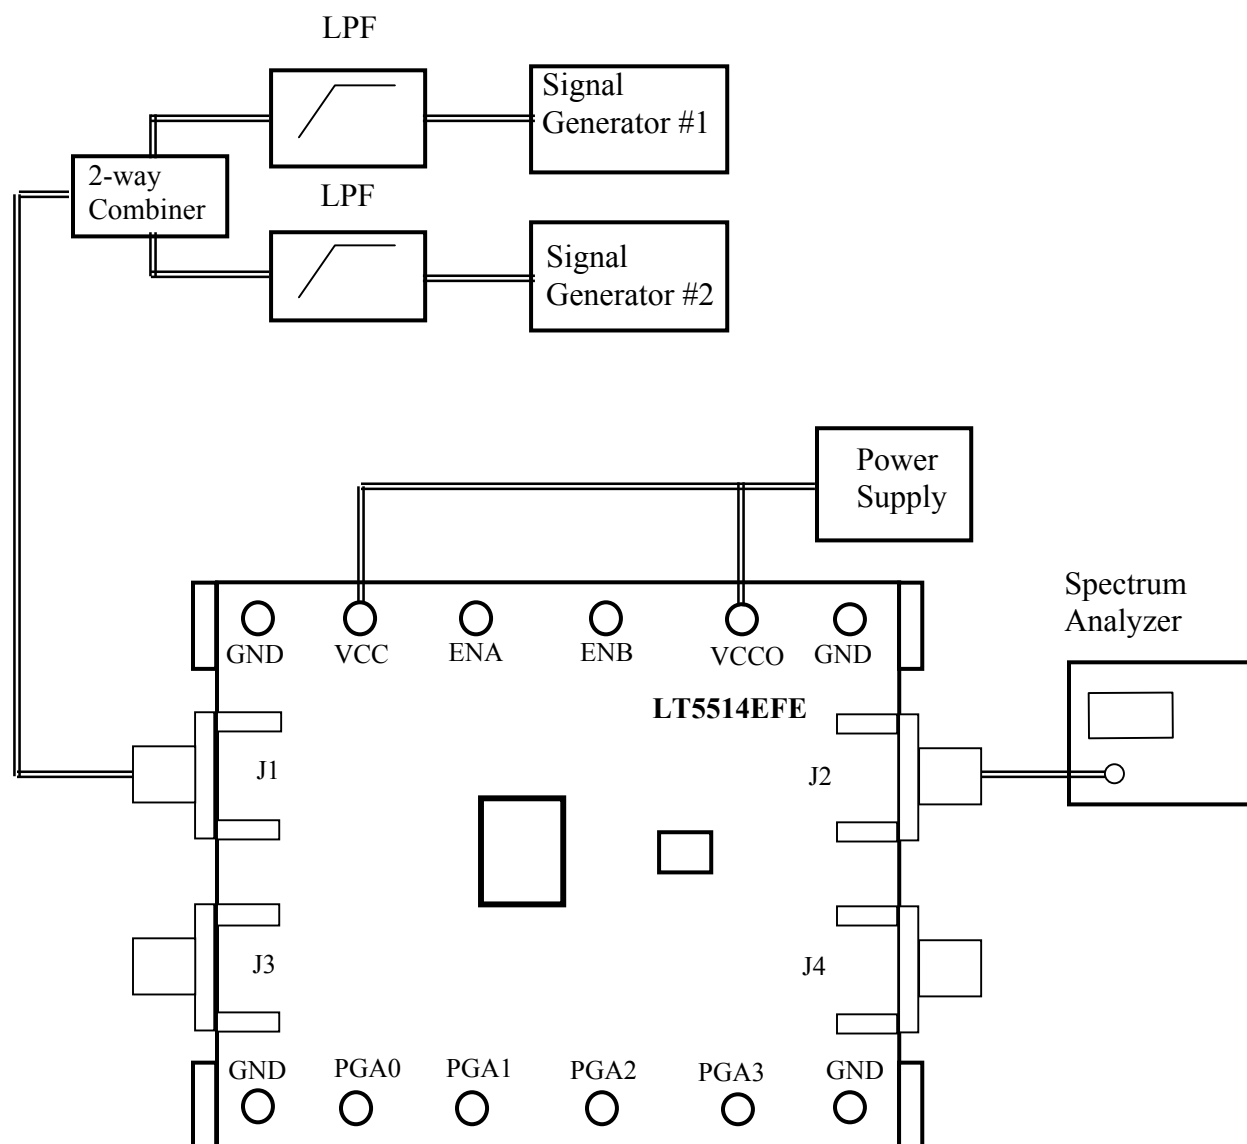

Figure 3. Test & Measurement Setup for Single Ended Input & Single Ended Output Demo Circuit.
Connect test equipment and power supply to the demo board as shown in Figure 3.
- 1) Connect test equipment and power supply to the demo board as shown in Figure 3.